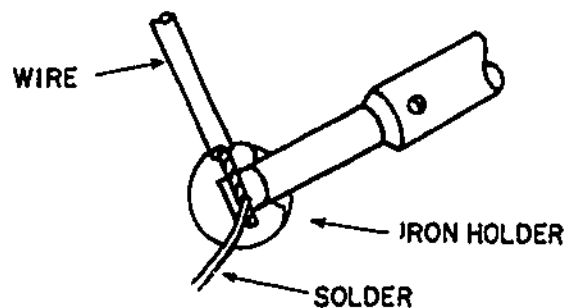

Figure 28. Tinning Wire.
a. Apply solder paste and tin the three wire ends you previously stripped to $9/32$ ". Hold the wire to the flat portion of the soldering iron tip and apply a small amount of solder to the wire. See figure 28. The instructor will demonstrate, if necessary.